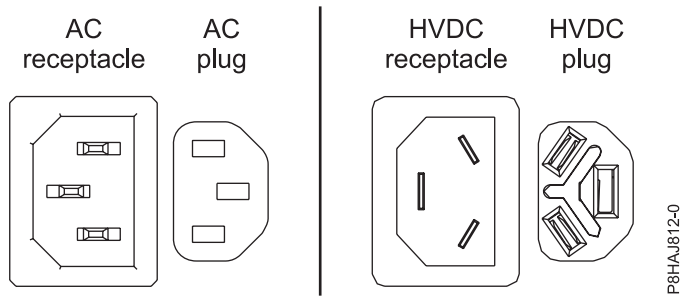
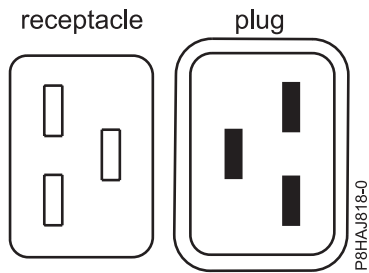
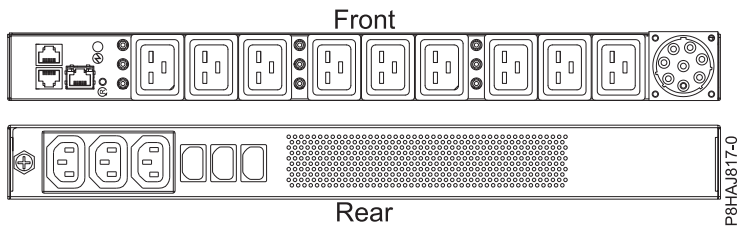

Figure 83. AC and HVDC connectors
Figure 84. Connectors for the 8408-44E system
Figure 85. PDU for the 8408-44E system
Figure 83 on page 115 shows the supported alternate current (AC) and high voltage direct current (HVDC) connectors. Figure 84 on page 115 and Figure 85 on page 115 show the supported connectors and power distribution unit (PDU) for 8408-44E.